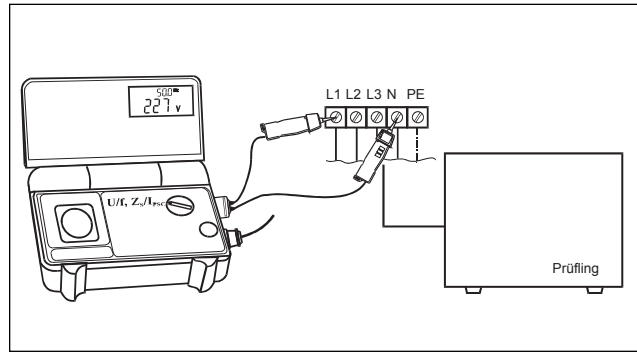
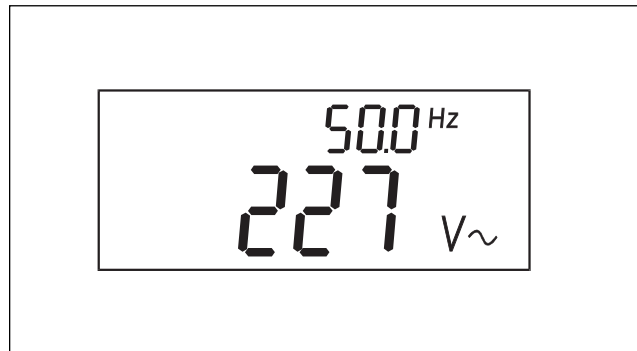

Fig.6.5
Fig. 6.6
- Connect test probes of COMMANDER 2 to UUT (use measurement accessories, if required) as shown in Figure 6.5. Voltage value V and frequency value f are continuously displayed without key pressing. (Figure 6.6):